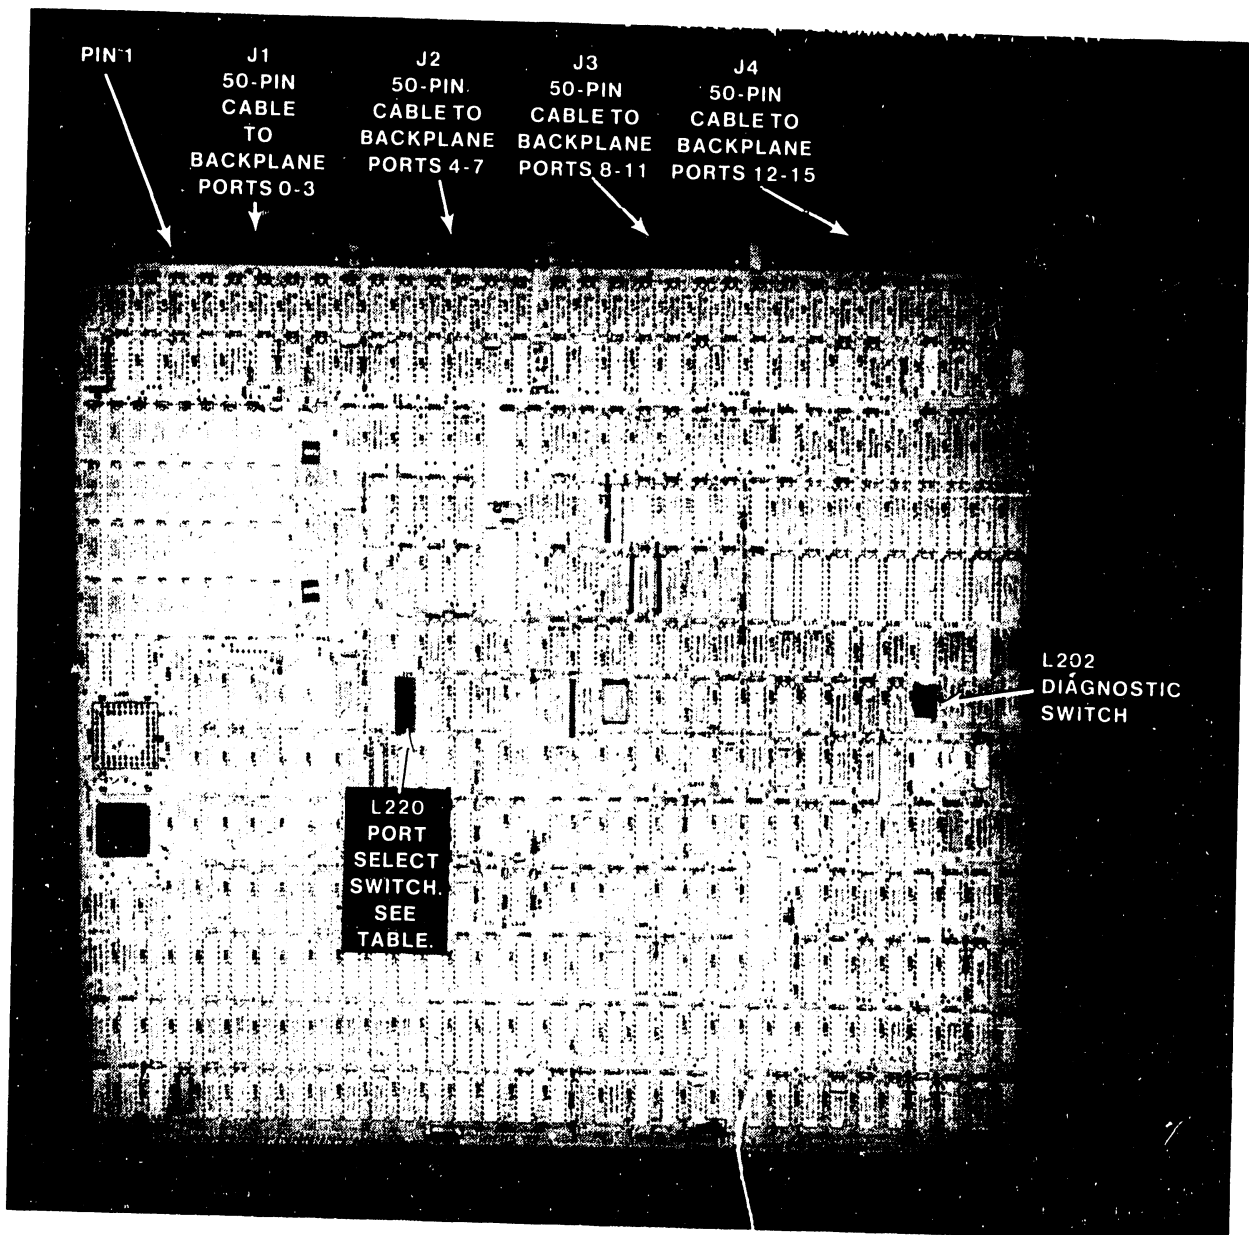

Figure 7-30. 23V86/96 Multiline TC (MLTC) IOC
2. Disconnect all cables from the top of the 23V86/96 Multiline TC IOC (figure 7-30). Note the position of all cables for later reassembly.
4. Check the 8-position port select loop back test switch at L220. (Figure 7-30, and table 7-6.) For normal power-up, all switches are on.
2. For normal operation, all L202 Diagnostic switches must be as shown in figure 7-30, and all L220 switches must be Closed (on).